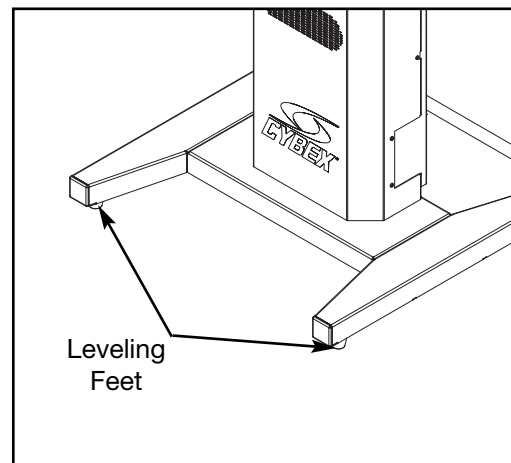

Figure 6
- C. Locate the leveling feet at the front of the unit. See Figure 6.